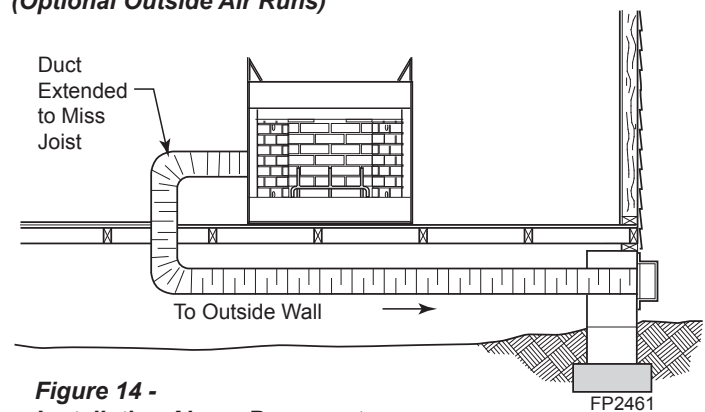

**Figure 12 -
6. Avoid extremely long runs and numerous turns in the duct leading from the fireplace to the combustion air assembly. These conditions increase the resistance to the free flow of air through the duct. *Refer to Figures 12 through 15 for methods of installing the outside air for combustion assemblies.*